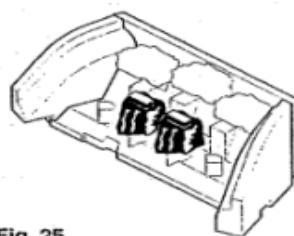

Fig. 25
7. The two medium sized coals (Fig. 25) have location pegs on their upper faces and shaped indentations on their underside. These should be located on the like-shaped inner pegs on the underbed.